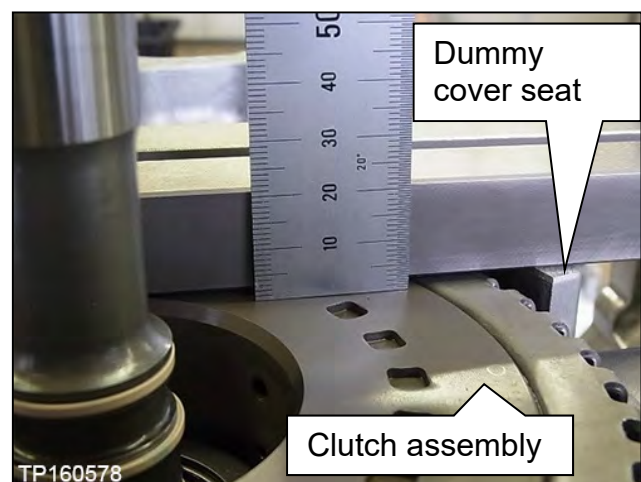

Figure 110
**NOTE:** The clutch assembly should sit 2-3 mm lower than the dummy cover seat (Figure 110).